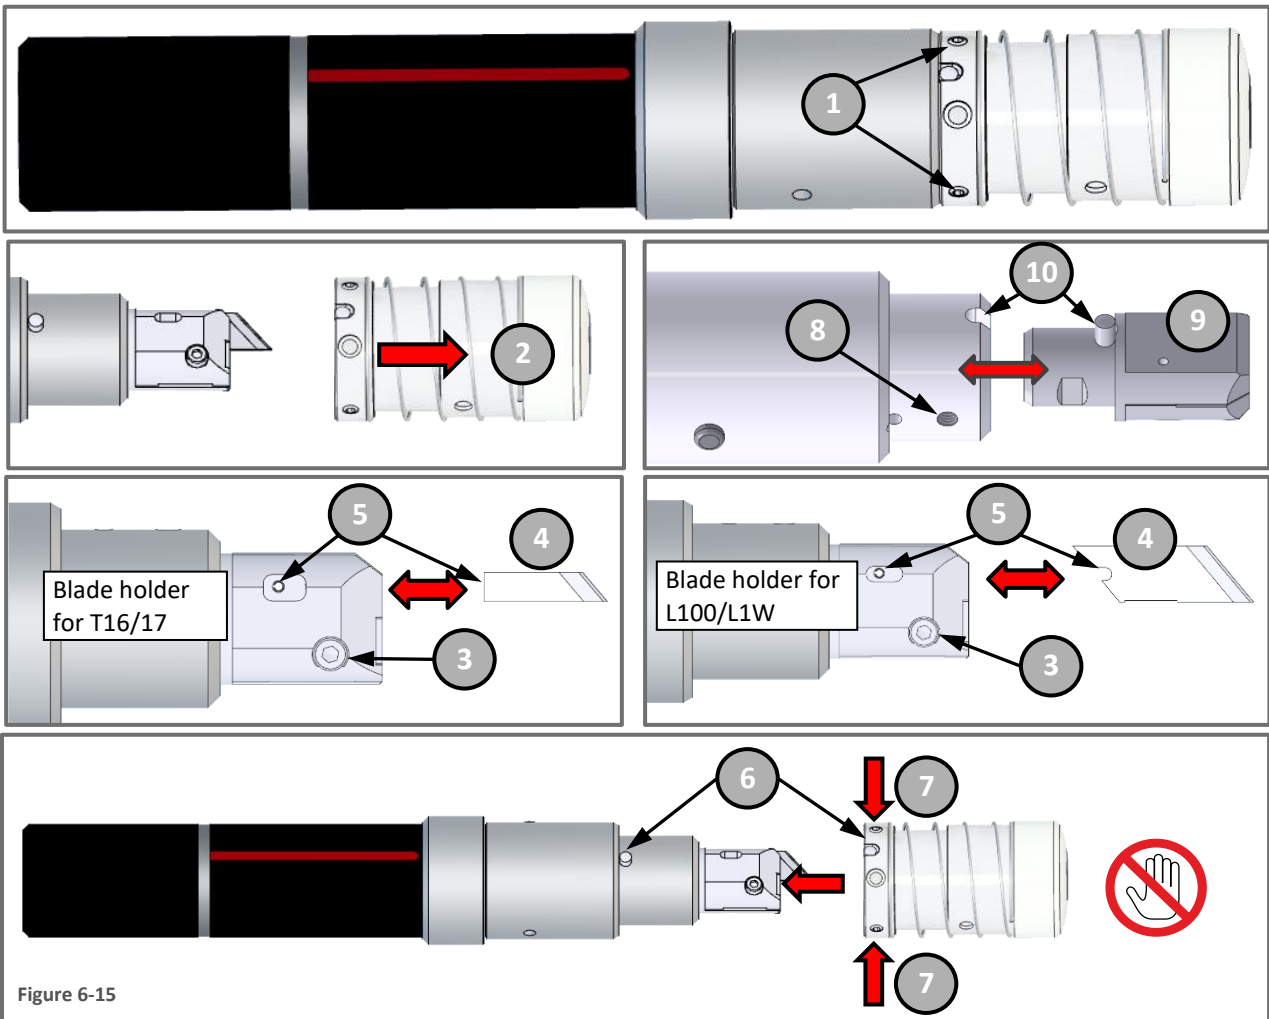

Figure 6-15
- a) Loosen the locking set screws (1) and remove the movable blade guard (2) Figure 6-15.